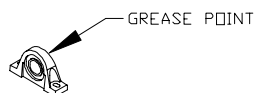

Figure 4
3. Line shaft bearings, located between the gearbox and end plates (figure 4).